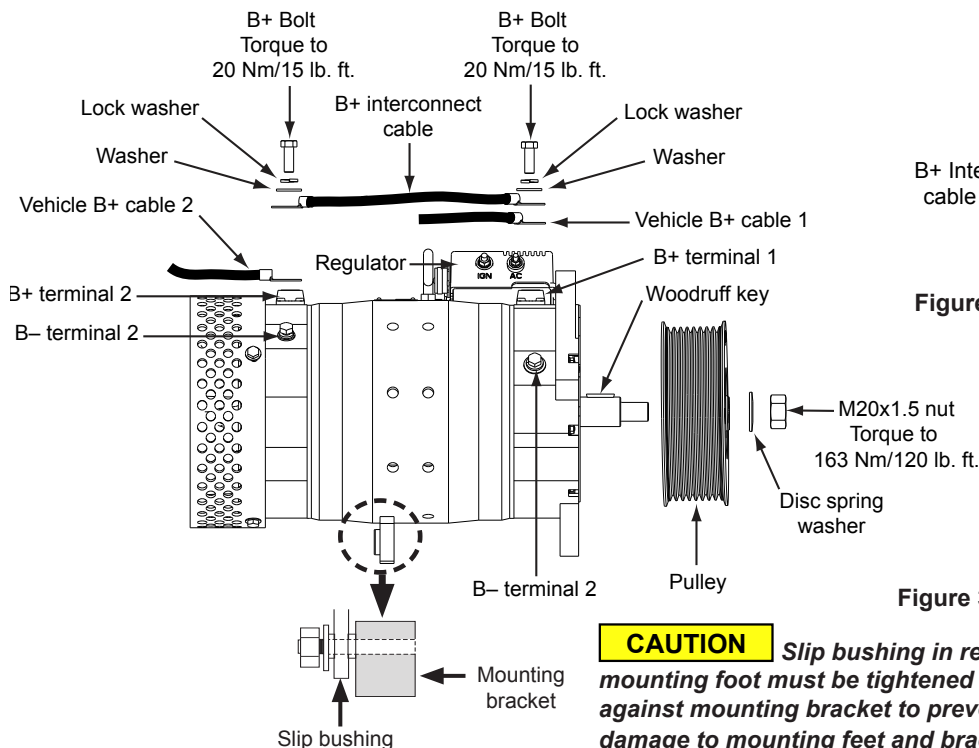
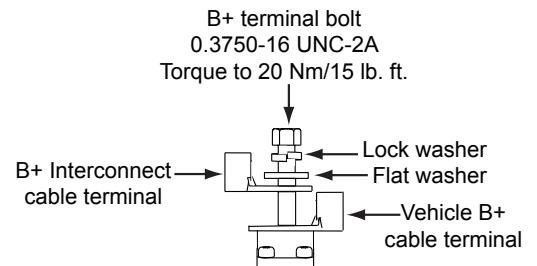

Figure 1: N1609 Alternator Installation
Figure 2: B+ Terminal Hardware Stacking Order
3. Install pulley, disc spring washer, and nut on shaft in that order. See Figure 1. Torque pulley nut to 163 Nm/120 lb.. ft.
6. Connect vehicle B+ cables and interconnect cable to alternator B+ terminals as shown in Figure 1. See Figure 2 for B+ hardware stacking order. Torque B+ bolts to 20 Nm/15 lb. ft.